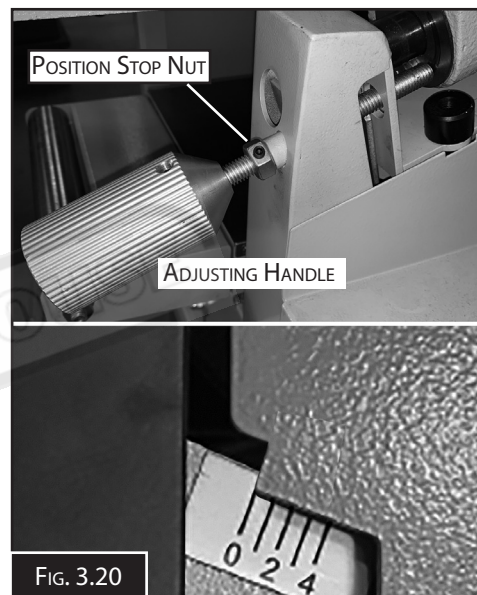

FIG. 3.20
2. Raise the infeed table by turning the rise and fall adjusting knob, (Fig.3.20) until the infeed table top stop is reached. The pointer should read 'zero' on the scale.
4. Remove the fence assembly. Unlock the infeed table locking handle and raise the table up. Undo the grub screw on the side of the position stop nut and rotate the nut on the thread as needed. (Anticlockwise moves table up, Clockwise moves table down)(Fig. 3.20)